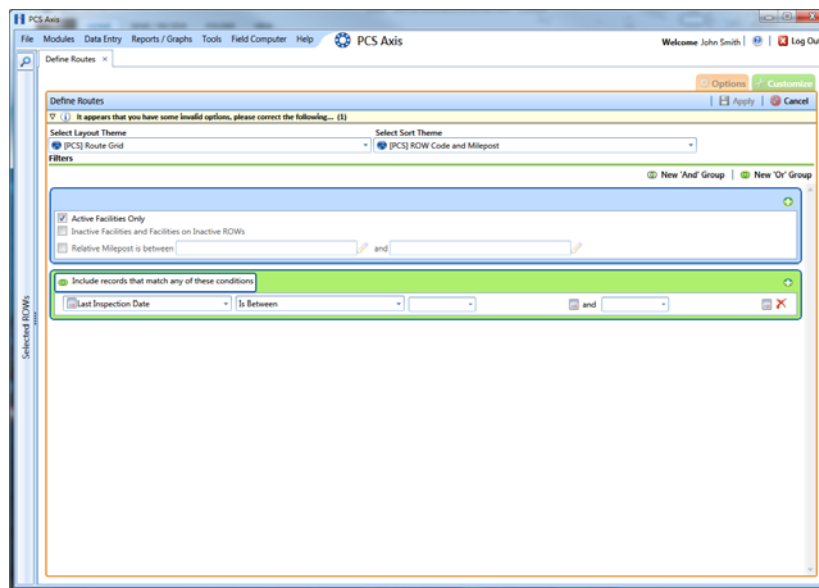

Figure 7-5. New 'Or Filter Group
- a Click  **New 'Or' Group** to open a filter properties group box (Figure 7-5).